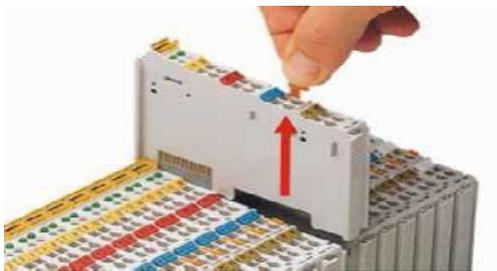

Fig. 6.2. Removing a Wago Module
1. On the Wago module assemblies to be replaced, tag all connecting cables (see Figure 6.2)
3. To release a Wago module from the DIN rail, pull the release tab on the module. The release tab is indicated by the red arrow shown in Figure 6.2.
Removal and replacement procedure for the LCD Panel (see Figure 6.2):